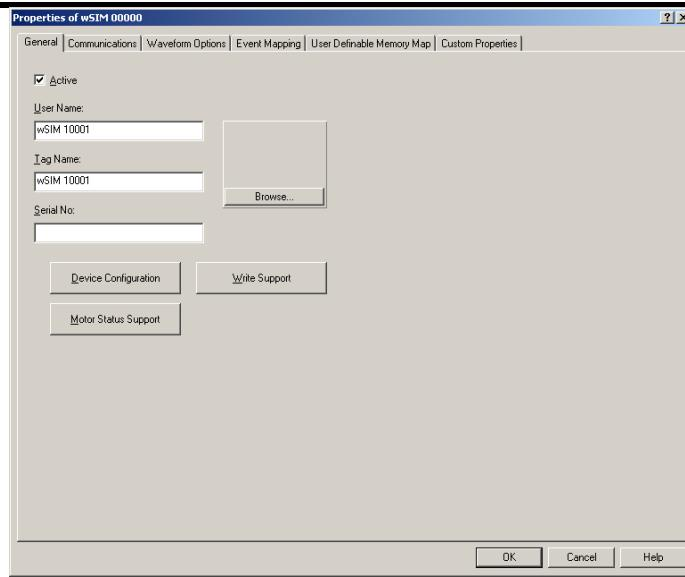

Figure 4-3: Name wSIM Modbus Device
- a. Enter the following information on the General Tab, see Figure 4-3.